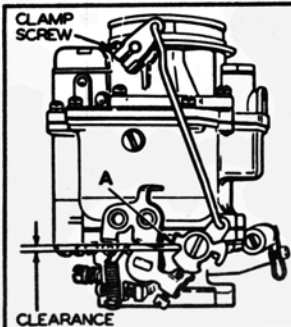

Figure 5
a. Step "A". (See figure 5.) Loosen the clamp screw in choke lever, place a feeler gage with thickness listed under "Step A" in Table at position (A, figure 5). Hold choke valve tightly closed and remove slack from linkage by pressing down on choke lever lightly; tighten clamp screw in lever. Make sure fast idle adjusting screw is backed out free of fast idle cam.